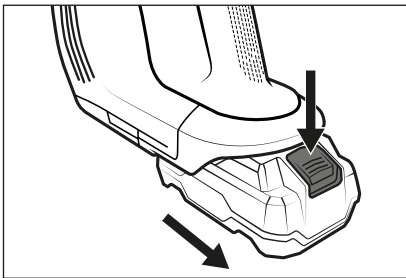

Fig. 13
- ◆ To remove the battery from the appliance, press and hold the battery release button and pull the battery out of the appliance (see Fig. 13).